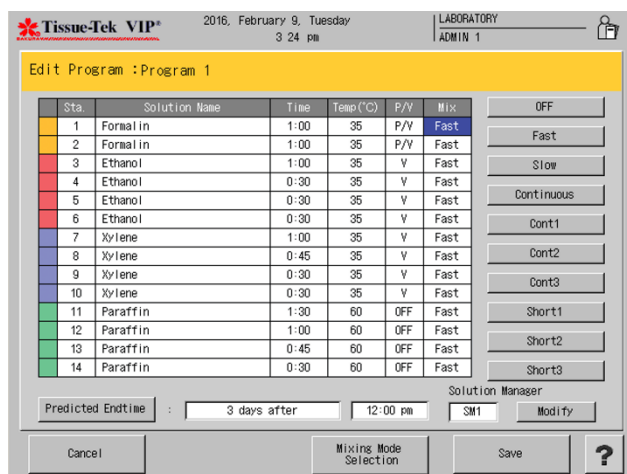

Figure 3-FFF
1. Touch the Mix field in the step to be modified (Figure 3-FFF).